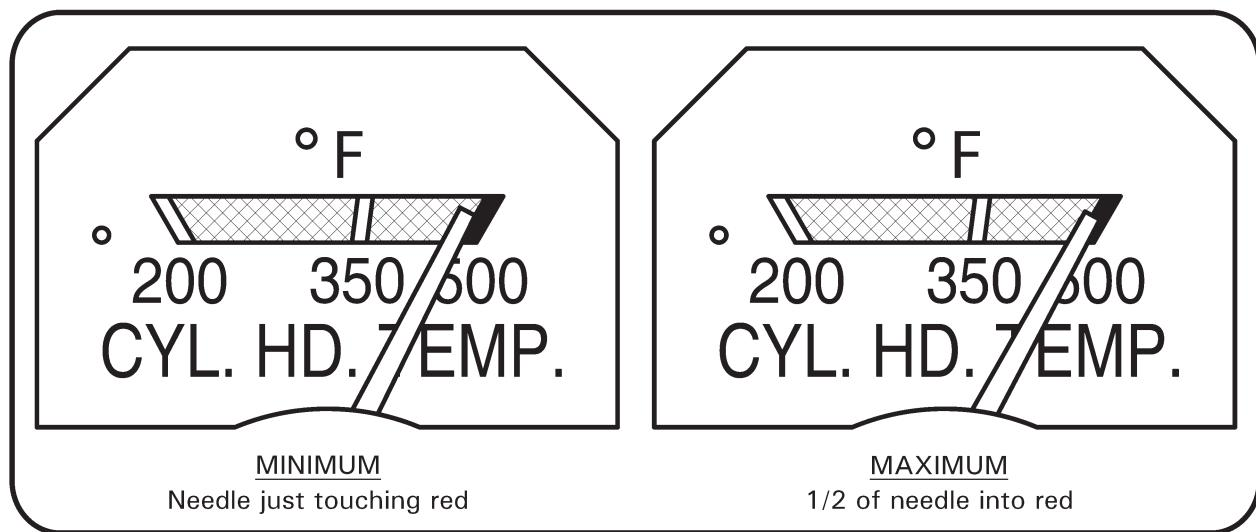

FIGURE 13-3 CYLINDER HEAT TEMPERATURE GAGE CALIBRATION
6. Refer to Figure 13-3. Push in GAGES 2-amp circuit breaker. Turn battery switch on and observe CHT gage. Adjust potentiometer screw on C691-1 circuit board assembly until gage indicates within limits shown with console in closed position (CHT probe resistance is 32 ± 0.4 ohms at $500^\circ F$).